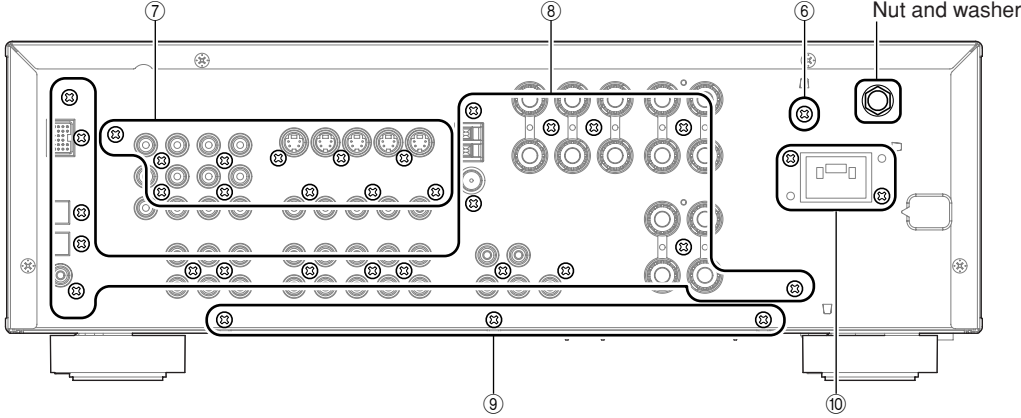

Fig. 3
- a. Remove screw (⑥). (Fig. 3)
- b. Remove nut and washer. (Fig. 3)
- b. Remove 11 screws (⑦). (Fig. 3)
- a. Remove 18 screws (T, G, E models)/19 screws (B model) (⑧), 3 screws (⑨) and 2 screws (⑩). (Fig. 3)
- Remove 3 screws (⑨). (Fig. 3)